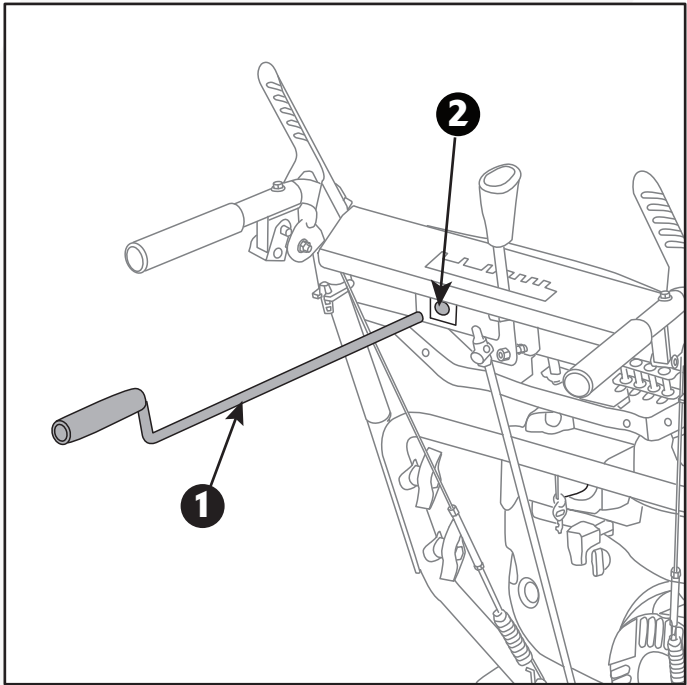

Fig. 5B
4. Insert the discharge chute rotation lever through the hole under the control panel. (Fig. 5B)